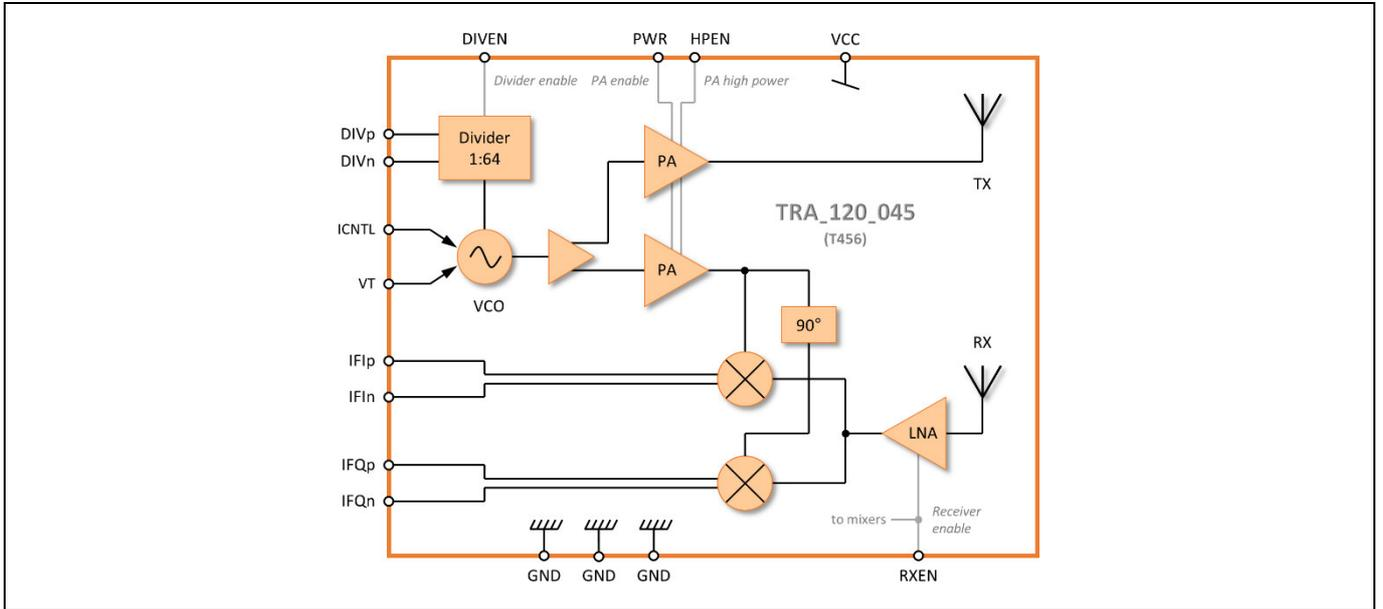

Figure 1 Block Diagram
The radar frontend TRA_120_045 is an integrated wideband transceiver circuit with antennas on chip. It provides a frequency bandwidth of greater than 20 GHz. The circuit includes a low-noise amplifier (LNA), quadrature mixers, a poly-phase filter, a voltage-controlled oscillator, divide-by-64 with differential output and transmit and receive antennas (see Figure 1). The RF signal from the oscillator is directed to the RX path via buffer circuits and polyphase filter to provide quadrature LO signal to the two RX mixers. The RX signal coming from RX antenna is amplified by LNA and converted to baseband by two mixers with quadrature LO signal. The integrated VCO has two analog tuning inputs. These two tuning inputs can be used to obtain the full tuning range of greater than 20 GHz. The on-chip VCO together with integrated frequency divider and external fractional-N PLL can be used for frequency modulated continuous wave (FMCW) radar operation. With a fixed oscillator frequency, it can be used in continuous wave (CW) mode. Other modulation schemes such as FSK can be implemented by utilizing the analog tuning inputs. The IC is fabricated in a BiCMOS technology.